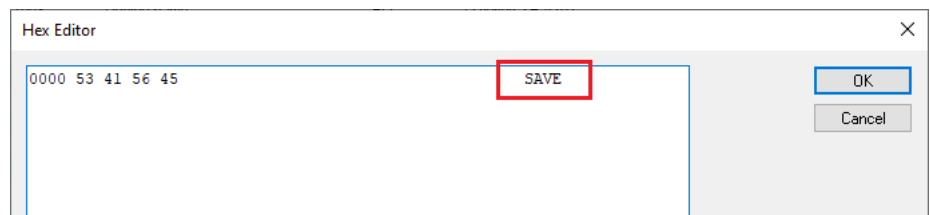

Fig. 6-39 Entering the SAVE command.
- Enter the *UPPERCASE* letters **SAVE** on the right (Fig. 6-39).